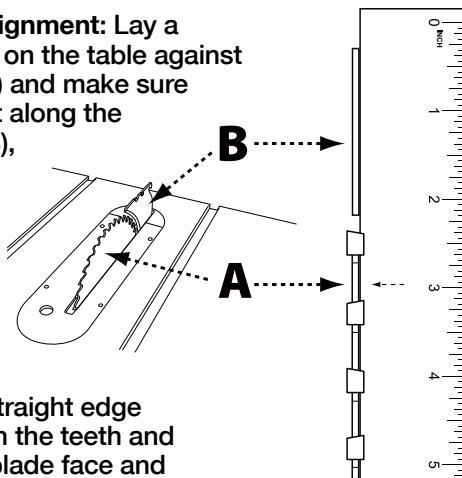

FIGURE 20a
1. **Horizontal Alignment:** Lay a straight edge on the table against blade face (A) and make sure it extends out along the riving knife (B), as shown in Figure 20a. The riving knife should just touch the straight edge. Be sure the straight edge goes between the teeth and rests on the blade face and the riving knife for proper alignment.